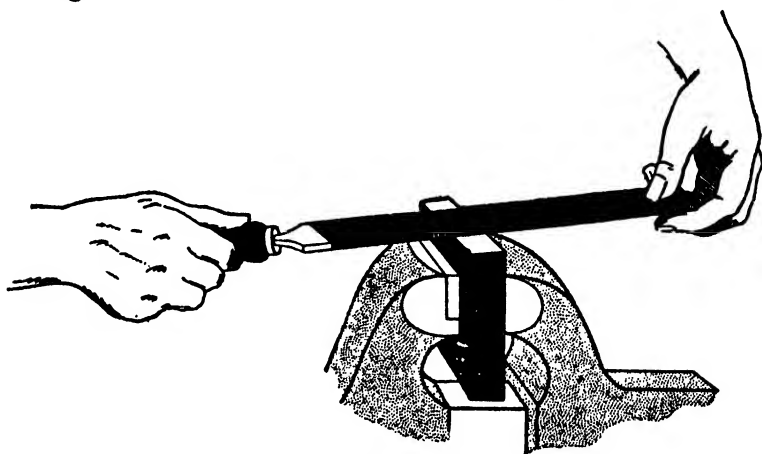

FIG. 61
3. Grasp the handle of the file with the right hand and hold the end between the thumb and fingers of the left hand. Fig. 61. When using a large file for making heavy cuts, place the weight of the hand on the end of the file.